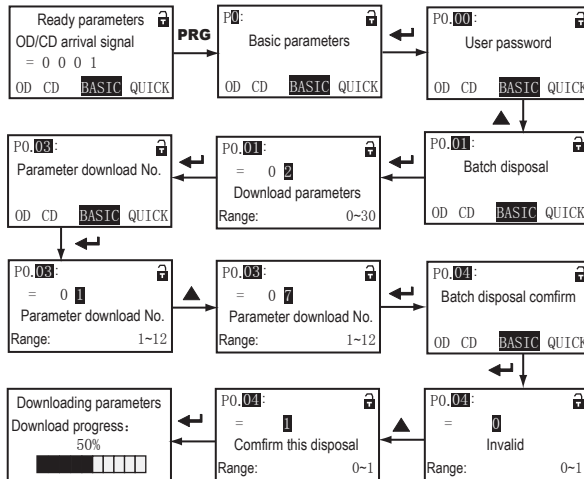

Figure 3-45 YS-P03 parameters download
1. For example: download panel group 7 (there are parameters) parameters to the present controller, shown as Figure 3-45. When the parameters are completely downloaded, it will enter stop state.